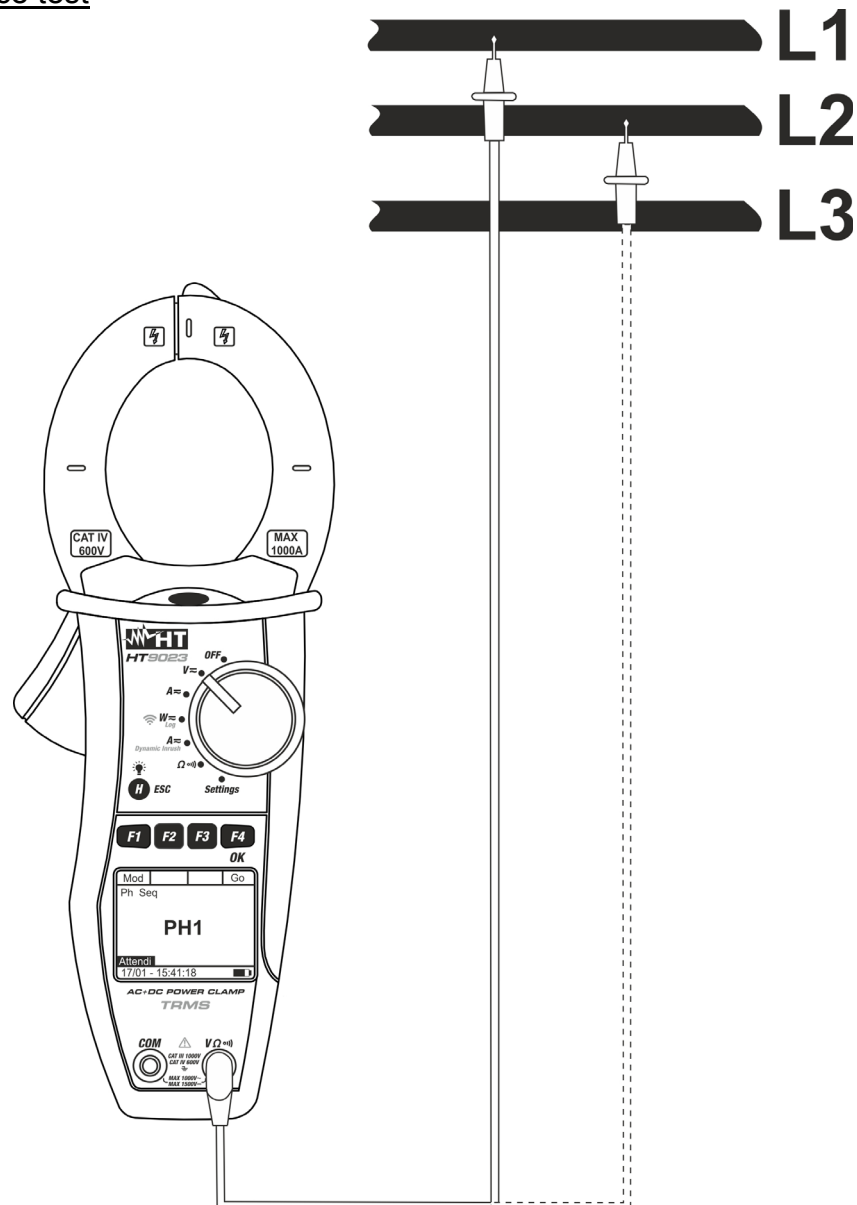

Fig. 7: Verification of phase sequence
4. Connect red cable to input lead **VΩ**) and black cable to input lead **COM** then position the leads respectively to the L1 phase and the ground reference PE of the circuit under test (see Fig. 7).
7. The message “**PH2**” is shown and the instrument waits for the detection of L2 phase. Connect the test lead to phase L2 cable (see Fig. 7)